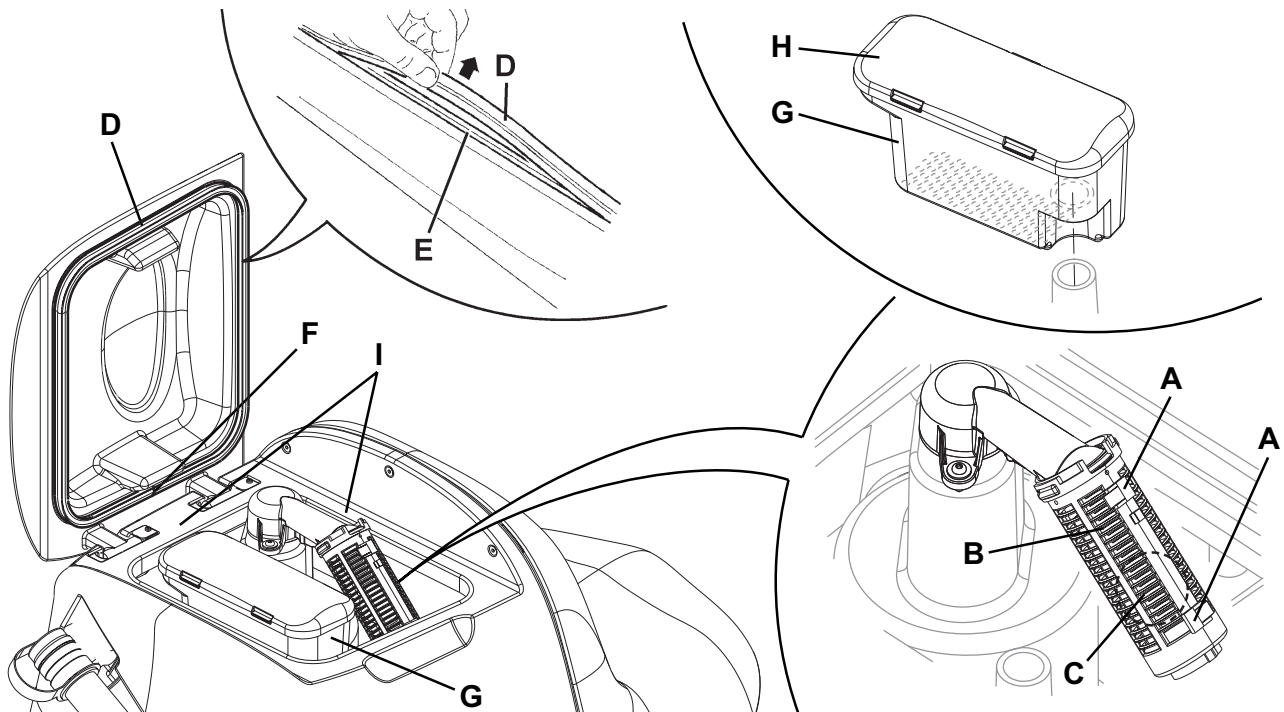

Figure 8
2. Turn the ignition key (58) to "0".
3. Open the cover (20).
4. Wash the cover (20) and the tank (19) with clean water.
- Drain the water in the tank through the hose (24).
5. Clean the vacuum grid (27), release the fasteners (A, Fig. 8), open the grid (B) and recover the float (C) then clean carefully and reinstall.
6. Clean the container with debris collection grid (26), remove the container (G), remove the cover (H), then clean carefully and reinstall the vacuum hose.
7. Check the tank cover gasket (D) for integrity.
*The gasket (D) creates vacuum in the tank that is necessary for vacuuming the recovery water.*
- If necessary replace the gasket (D) by removing it from its housing (E). When assembling the new gasket, install the joint (F) in the lower area, as shown in the figure.